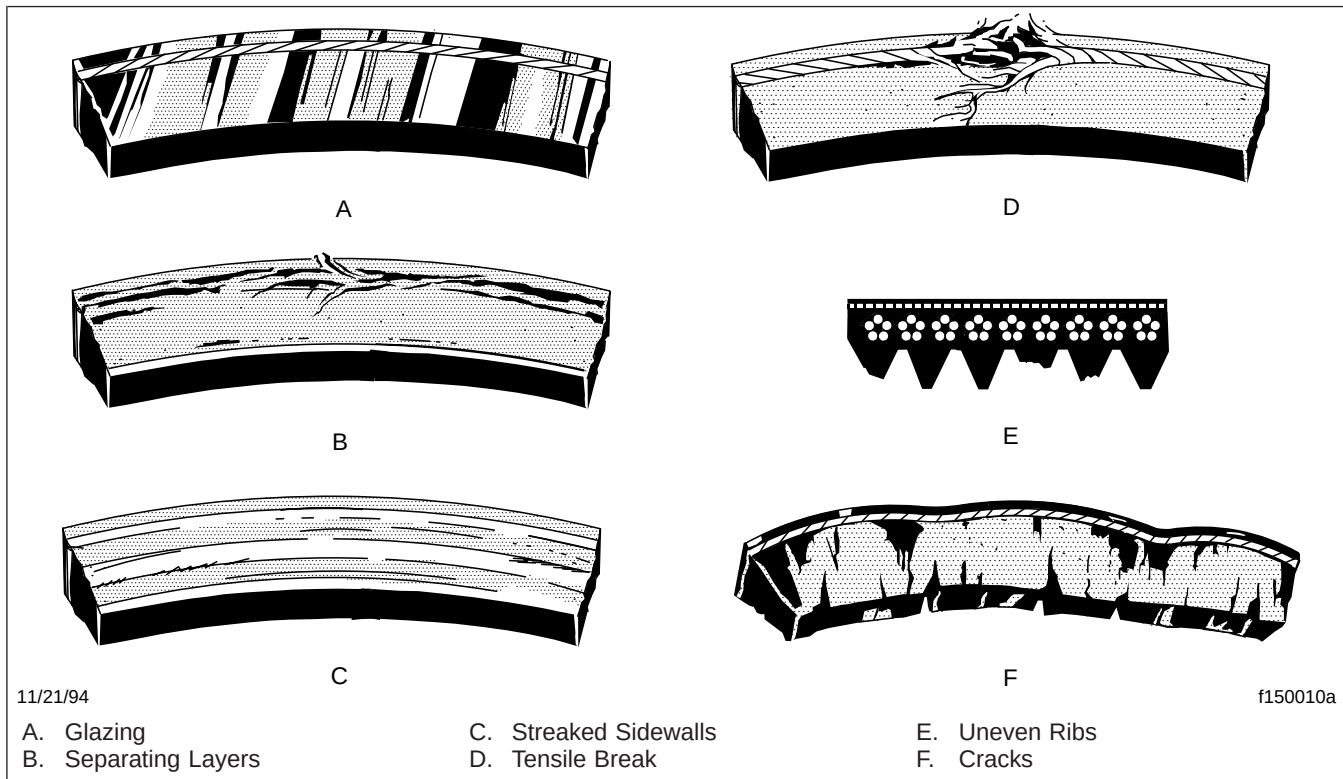

Fig. 2, Drive Belt Replacement Conditions
1. Inspect the belt for glazing. See **Fig. 2**, Ref. A. Glazing is represented by shiny sidewalls, and is caused by friction created when a loose belt slips in the pulleys. It can also be caused by oil or grease on the pulleys.
2. Check the belt for ply separation. See **Fig. 2**, Ref. B. Oil, grease, or belt dressing can cause the belt to fall apart in layers. Repair any oil or coolant leaks that are affecting the belts before replacing the drive belts. Do not use belt dressing on any belt.
3. Check the belt for a jagged or streaked sidewall. See **Fig. 2**, Ref. C. Jagged or streaked sidewalls are the result of foreign objects, such as sand or gravel in the pulley, or a rough pulley surface.
4. Check for tensile breaks; breaks in the cord body. See **Fig. 2**, Ref. D. Cuts in a belt are usually caused by foreign objects in the pulley, or by prying or forcing the belt during removal or installation.
5. Check for uneven ribs on serpentine (poly-V) belts. See **Fig. 2**, Ref. E. Foreign objects in the pulley will erode the undercord ribs, causing the belt to lose its gripping power.
6. Check the drive belts for cracks. See **Fig. 2**, Ref. F. Small irregular cracks are usually signs of an old belt.